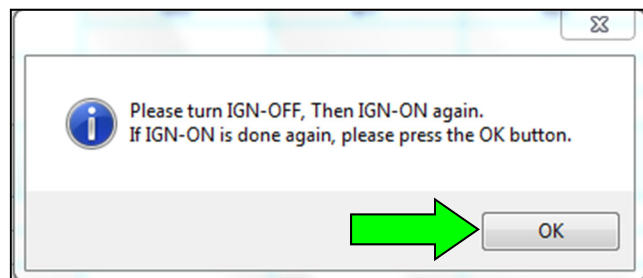

Figure 8
14. When the screen in Figure 8 appears, turn OFF the ignition, and then turn ON the ignition.
- The 75-zero reset process will run for about another seven (7) seconds.